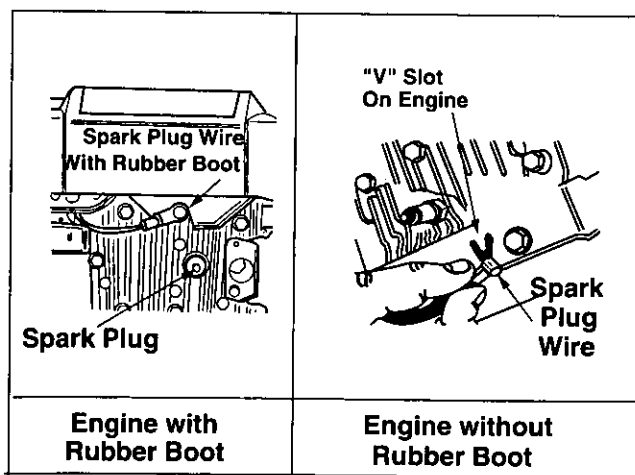

FIGURE 2. Grounding the Spark Plug Wire
Before setting up your lawn mower, disconnect the spark plug wire from the spark plug, and ground it against the engine. See figure 2.
- Disconnect spark plug wire from the spark plug and ground it against the engine. On engines with a rubber boot, attach rubber boot to a bolt on the engine to ground. See figure 2.